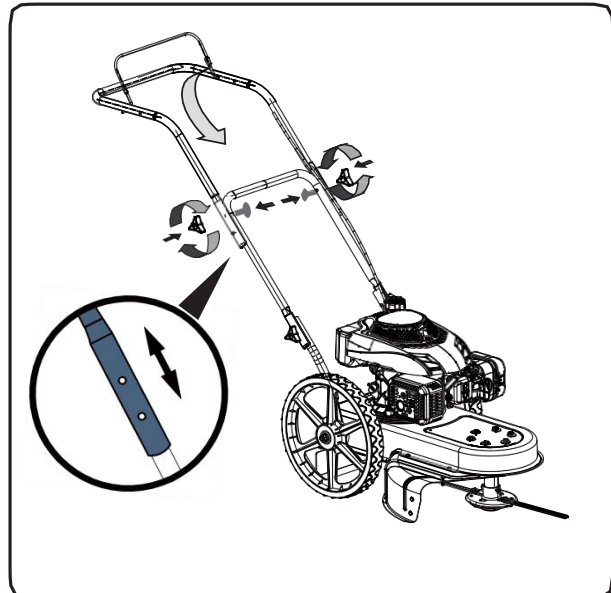

Figure 3-2
2. Find the upper handle and move the upper handle into one of two positions by pivoting and fasten the middle handle. See Figure 3-2